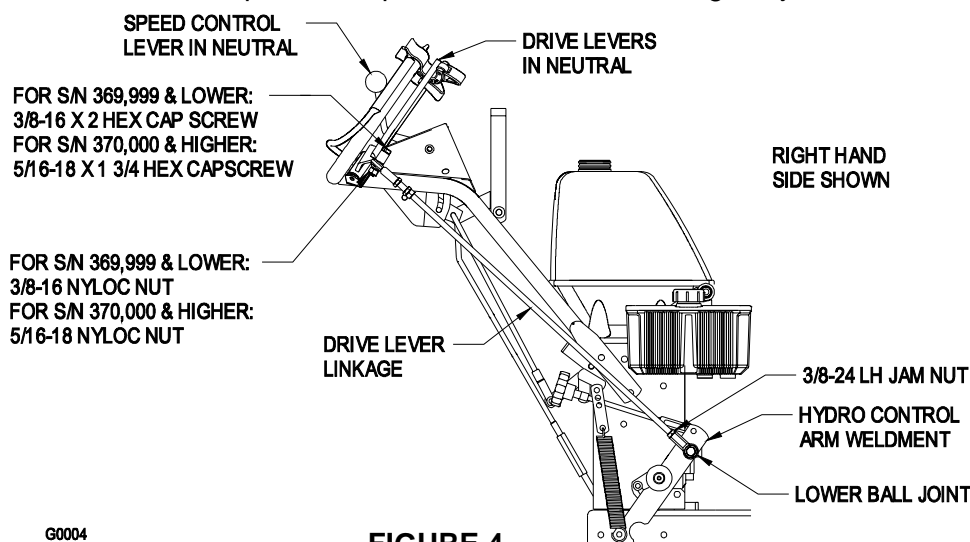
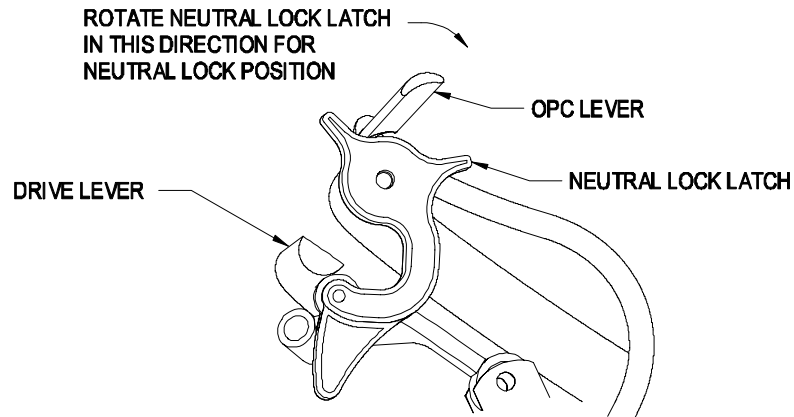

FIGURE 4
FIGURE 5
- 3.13 Install drive lever linkages (See Figure 4). Position the speed control lever in neutral. Position the drive levers in neutral and engage the neutral lock latches (See Figure 5 (b)). Drive lever linkages are shipped with upper ball joints installed. Thread a 3/8-24 LH jam nut, from the bolt bag, onto the lower end of each drive lever linkage. Identify the lower ball joints installed on hydro control arm weldments. Thread lower end of each drive lever linkage into the lower ball joint until hole in upper ball joint aligns with hole in drive lever.
4.1.2 Operator Presence Control (OPC) Levers: Located on the upper handle assembly directly above the handle grips. See Figure 5. **When these levers are depressed, the OPC system senses that the operator is in the normal operator's position. When the levers are released, the OPC system senses that the operator has moved from the normal operating position and will kill the engine if either the speed control lever is *not in the neutral* position or the *PTO is engaged*.**
4.1.4 Drive Levers: Located on each side of the upper handle assembly directly below the handle grips (See Figure 5). These levers individually control the speed and direction of each drive wheel. When the speed control lever is moved out of the neutral position and the neutral lock latches are moved into the drive position, as shown in Figure 5, and the drive levers are released, the drive wheels are engaged in the forward direction.
- 4.1.5 **Neutral Lock Latch:** Located at the end of the handles. The purpose of these latches is to allow the operator to lock the drive levers in a "neutral" position where neither of the drive wheels are engaged in either a forward or reverse direction (See Figure 5).